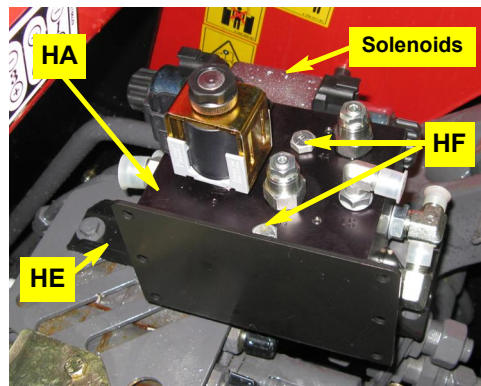

Figure 2b: Installed steering block
- b. Using hardware **HF**, install the prepared hydraulic steering block **HA** on bracket **HE**. Mount **HA** with its solenoids to the right (so steering ports A and B rearward - Figure 2b).